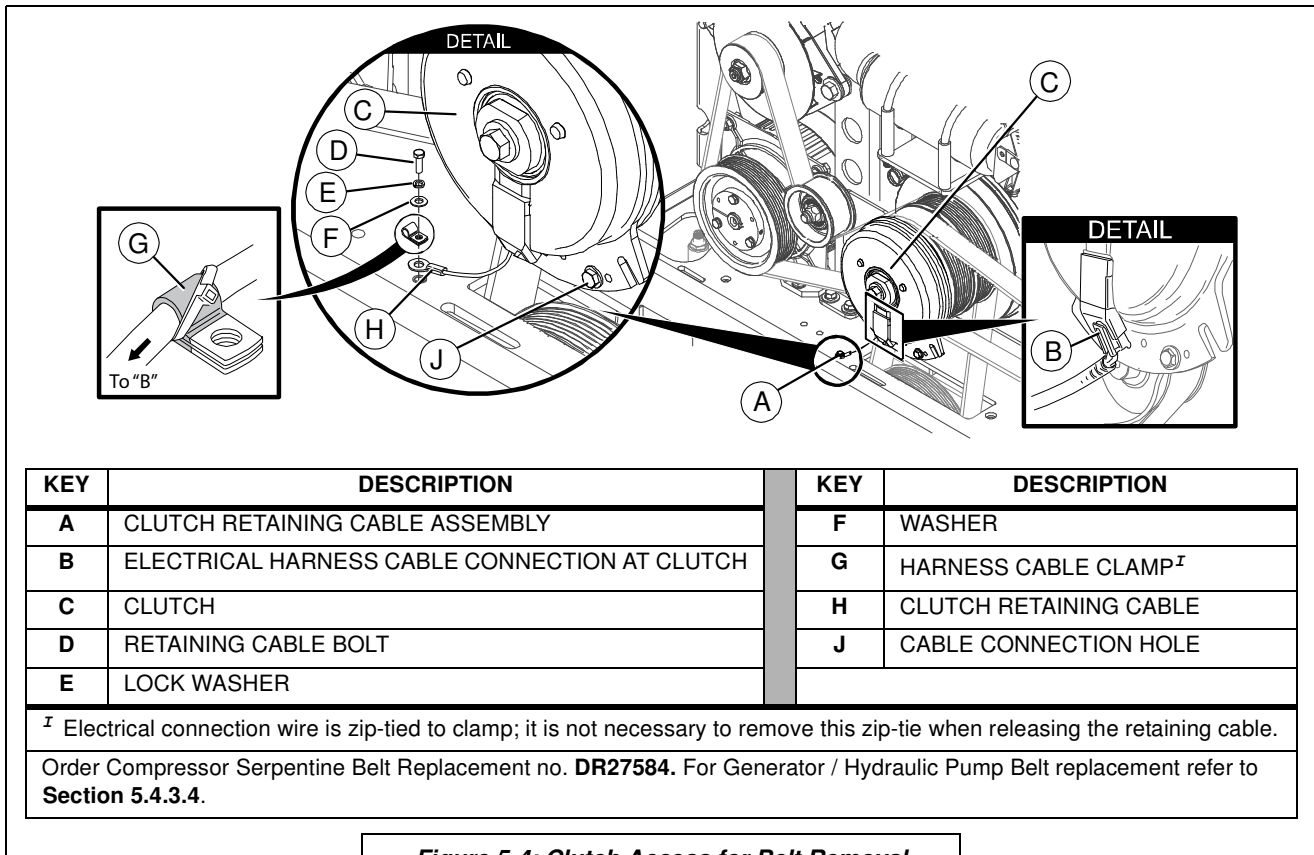

Figure 5-4: Clutch Access for Belt Removal
To replace the air compressor serpentine belt consult **Figures 5-4** and **5-5**, and the following procedure:
BELT ACCESS AT CLUTCH (*Figure 5-4*)
2. Locate the clutch retaining cable ([H] in **Figure 5-4**) secured to the floor of the machine near the clutch apparatus of the engine.
3. (**Figure 5-4**) Reposition the clutch retaining cable [H], harness cable clamp (with harness wire intact) [G], washer [F], lock washer [E] and retaining cable bolt [D] into proper anchoring hole in the frame base. Tighten the bolt securely.
To replace the generator / hydraulic pump serpentine belt, the compressor drive belt must first be removed. Consult **Figures 5-4** (for clutch access to belts), **Figure 5-7**, and the following procedure: